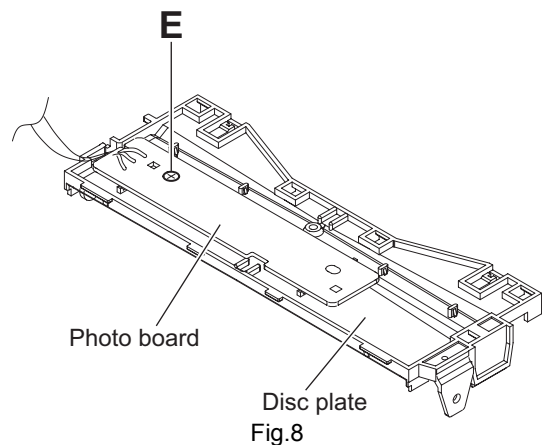

Fig.8
- (3) From the reverse side of the disc plate, remove the screw **E** attaching the PHOTO BOARD assembly. (See Fig.8.)